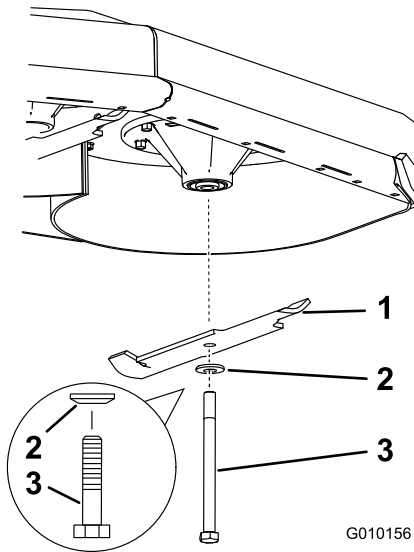

Figure 15
Important: The sail part of the blade (i.e., the turned up section) must face the inside of the mower (**Figure 15**).
1. Install the new blades to the spindles with washers and blade bolts that were previously removed (**Figure 15**).